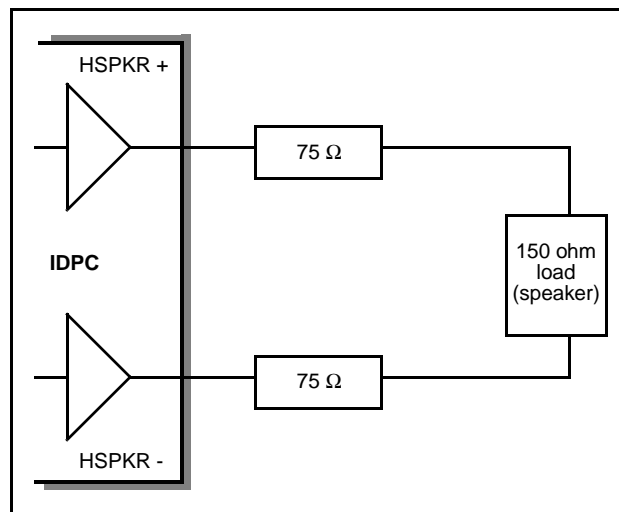

Figure 4 - Handset Speaker Driver
- The handset speaker outputs (receiver), pins HSPKR+/HSPKR-. This internally compensated, fully differential output driver is capable of driving the load shown in Figure 4. The nominal handset receive path gain may be adjusted to either -12.1 dB or -9.6 dB. Control of this gain is provided by the RxINC control bit (Control